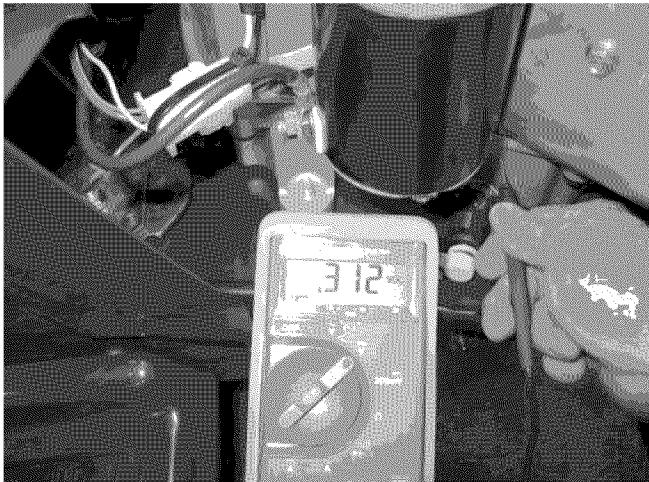

Figure 7.49
6. A similar ground-side test on a tractor with a slow-cranking starter motor can be conducted between the engine block and the negative battery post. See Figure 7.49.